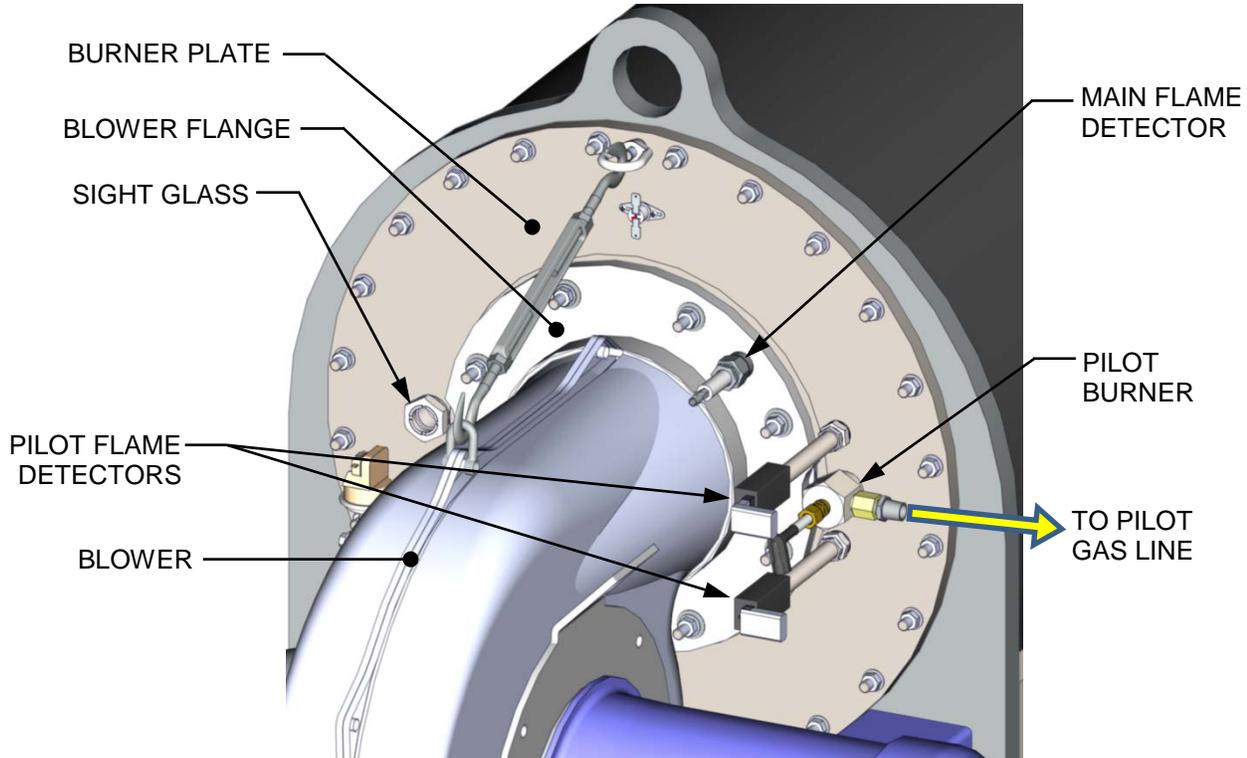
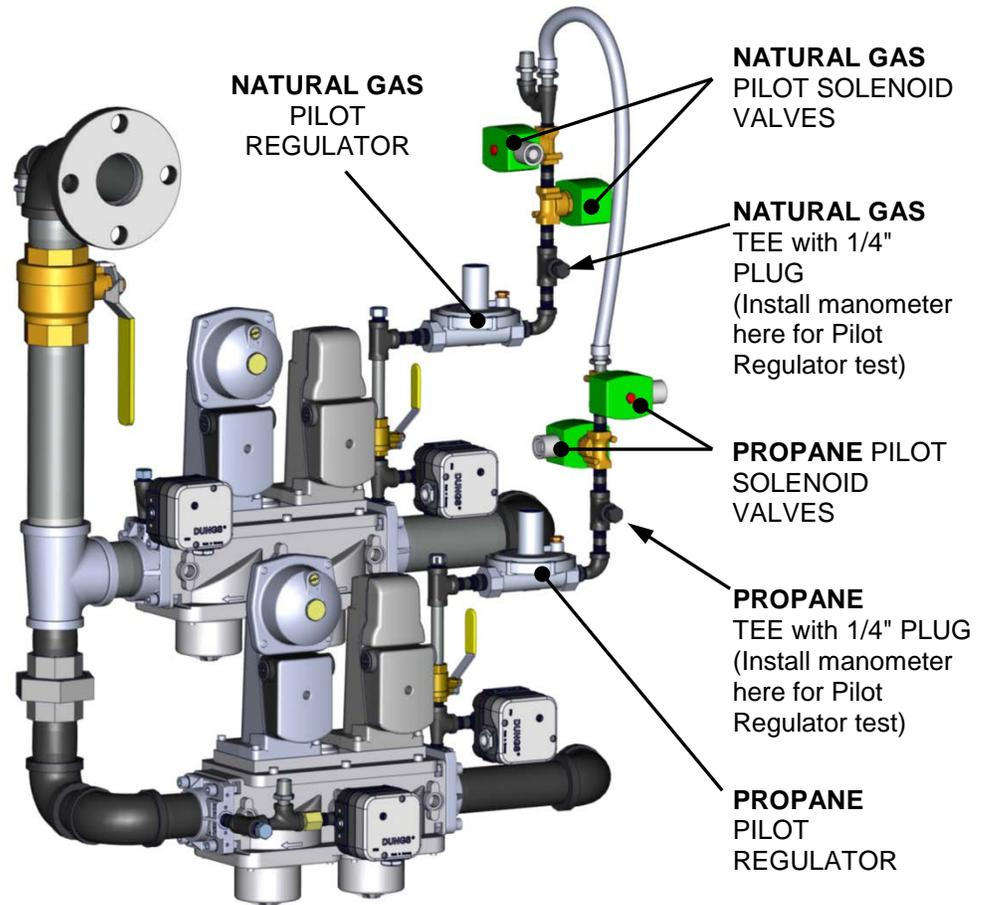

Figure 7-1: Pilot Burner, Main & Pilot Flame Detector Mounting Locations
Figure 7-3: Pilot Regulator Mounting Location
The Pilot Burner (P/N **29700**) is located on the right-front of the Burner Plate. It contains an ignition cable and a Pilot gas line connected to the bushing. Figure 7-1 shows the location of the Pilot Burner and related components.
3. Disconnect the ignition cable from the Pilot Burner (Figure 7-1).
4. Using a 1/2" open-end wrench, disconnect the Pilot gas line from the reducer fitting and elbow shown in Figure 7-1.
The Main Flame Detector (P/N **65150**) is located on the Blower Flange near the top of the unit (see Figures 7-1). The Main Flame Detector may be hot. Allow the unit to cool sufficiently before removing the Main Flame Detector. Inspect or replace the Main Flame Detector as follows:
Benchmark 6000 Dual Fuel units have two Pilot Regulator systems, one in the Natural Gas gas train and one in the Propane gas train (see Figure 7-3). Both Pilot Regulators should be pressure tested annually as described below. If the gas pressure is **below 4.6" W.C.** or **above 5.0" W.C.** in either regulator, then that regulator must be recalibrated using the instructions in section 7.5.2.
3. Remove the 1/4" NPT plug from the Tee on the outlet side of the Pilot Regulator (Figure 7-3) and insert a NPT-to-barbed adapter fitting.
5. Remove the cap from the Pilot Regulator to access the gas pressure adjustment. Rotate the regulator adjustment (beneath cap) clockwise (CW) to its highest possible pressure setting.
10. Pull out one of the Pilot Flame Detectors (see Figure 7-1) and look into the observation port on the front plate. You should see the orange glow of the Pilot flame during the ignition trial period.
3. Remove the pipe plug from the 1/4" NPT port on the outlet side of the Pilot Regulator (Figure 7-3) and insert a NPT-to-barbed adapter fitting.
5. Remove the cap from the Pilot pressure regulator and rotate the regulator adjustment (beneath cap) clockwise (CW) to its highest possible pressure setting.
9. Pull one of the Pilot Flame Detectors out (see Figure 7-1) and look into the port in the front plate. You should see the orange glow of the Pilot flame during the ignition trial period.